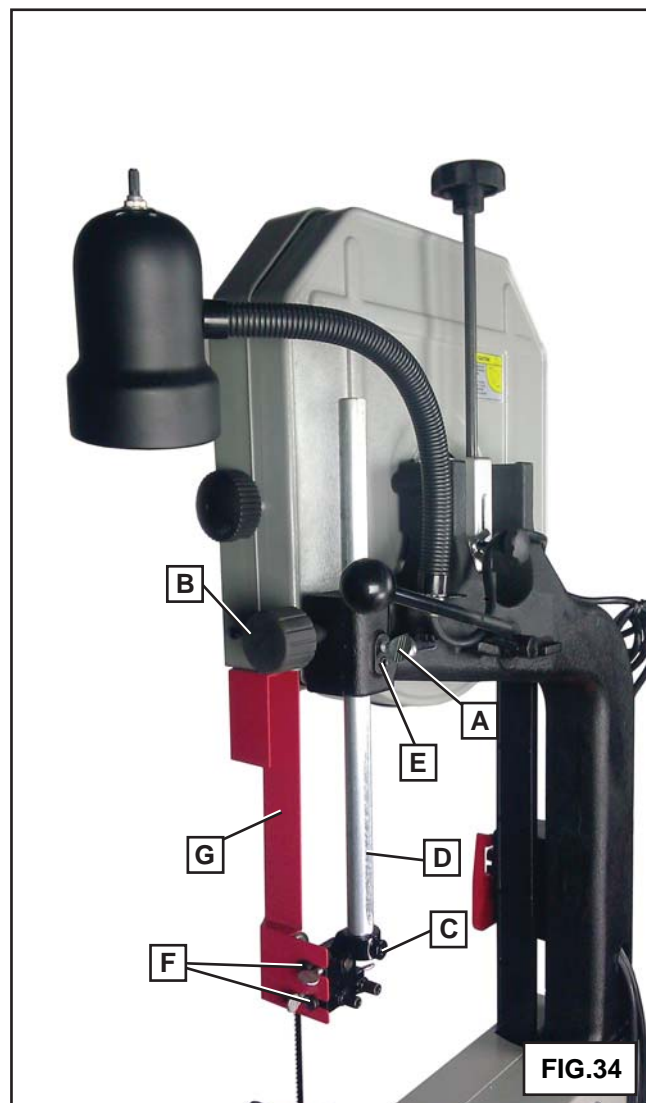

FIG.34
1. The red guard height is set by loosening the thumbscrew (A) and turning the black knob (B) clockwise to raise and counter clockwise to lower. The guard should be no higher than 1/4" above the workpiece during use. **SEE FIG.34** .
2. To fine tune the guard to enter the upper wheel guard housing, you may loosen the set screw (C) on the bearing assembly and elevation shaft (D). Shift and then tighten as needed. **SEE FIG.34** .
3. If there is sloppiness in the elevation movement, you can adjust the set screw (E) located just below the thumbscrew. This meets with the slot in the elevation shaft. **SEE FIG. 34** .
4. To adjust vertical, loosen the 2 Philipps screws (F) with driver (not supplied) shift the guard (G) and then tighten both screws. **SEE FIG.34** .